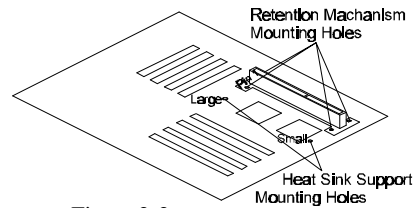

Figure 2-2
1. Finds out the Retention Mechanism (RM) Mounting Holes and "Pin 1" mark of Slot 1 on HOT-631 main board. (Refer to Figure 2-2)